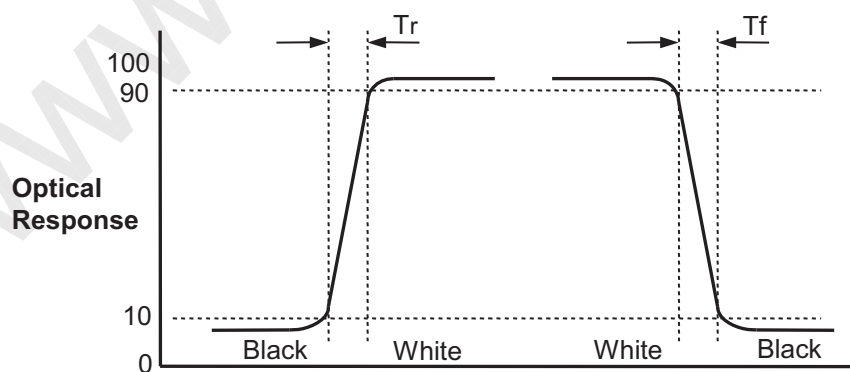

FIG. 8 Response Time
2. Response time is the time required for the display to transit from G(0) to G(255) (Rising Time, Tr) and from G(255) to G(0) (Falling Time, Tf). For additional information, see the FIG. 8.